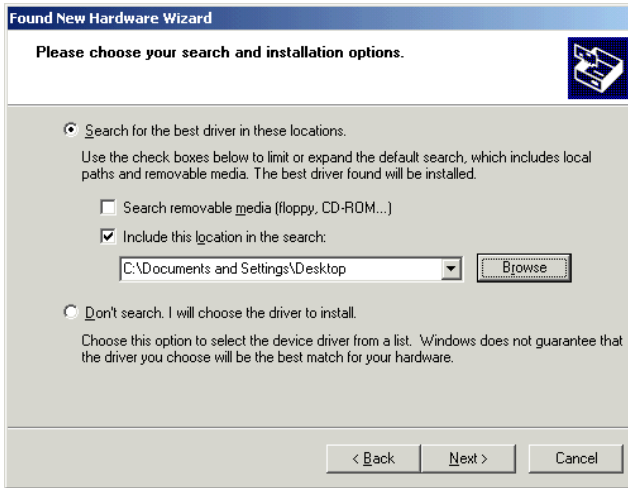

Figure 5: File Location Selection Window
| Figure 5: File Location Selection Window                                 | 8  |
11. Select **Install from a list or specific location (Advanced)** as shown in Figure 5.